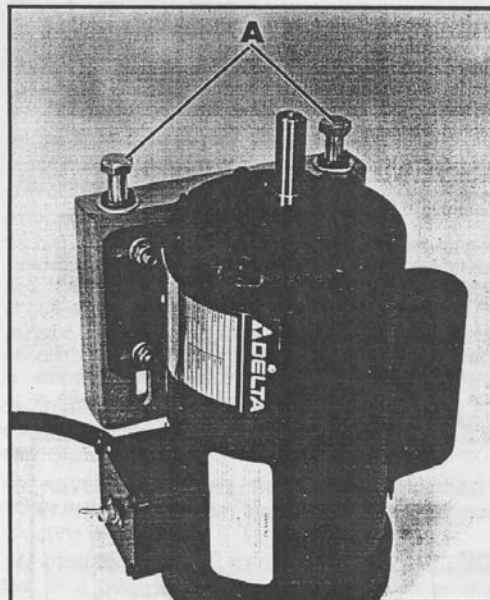

Fig. 4
1. Bolt the motor to the motor mounting plate using the four carriage bolts, lockwashers, flat washers, and nuts supplied, as shown in Fig. 4. Do not tighten the nuts securely at this time.
2. Partially insert cap screws (A), lockwashers and flat washers to top of motor mounting plate, as shown in Fig. 4.